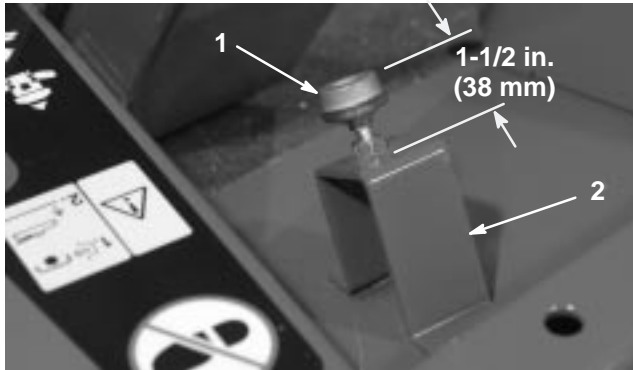

Figure 68
2. Check the traction pedal stop adjustment. The distance from the top of the stand to the top of the stop must be 1-1/2 in. (38 mm) (Fig. 68). Loosen the nuts and adjust, as required.